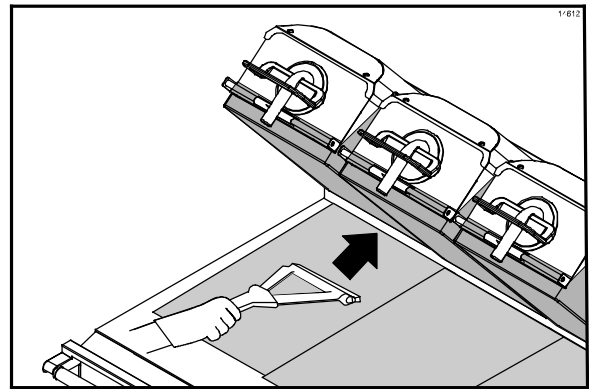

Figure 27
1. Squeegee the lower release sheet from front to back. (See Figure 27.)